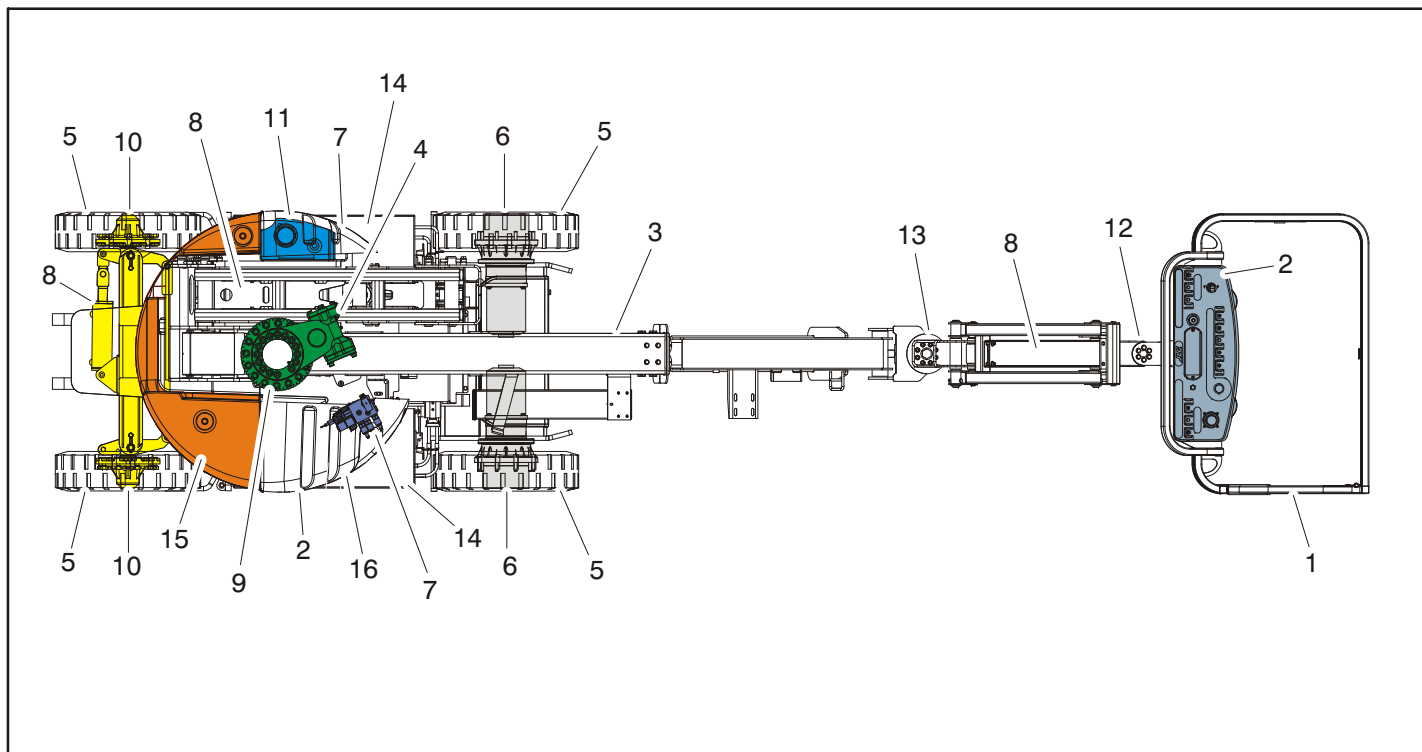

Figure 2-2. Daily Walk-Around Inspection - Sheet 1 of 3
5. **“Walk-Around” Inspection** – Refer to Figure 2-2.